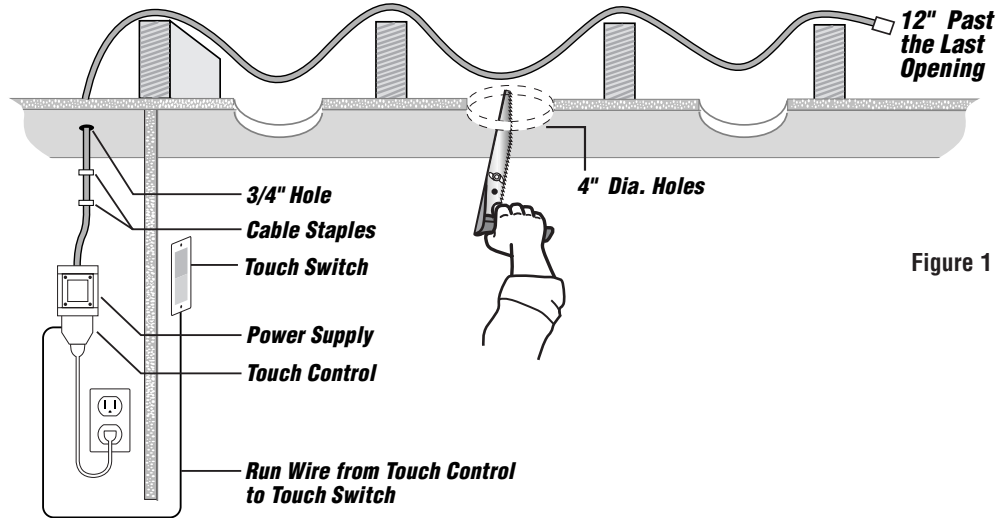
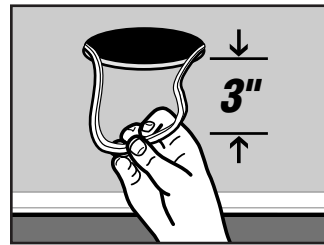

Figure 1
Figure 2
1. Cut a 4" diameter hole at the predetermined fixture locations (Fig. 1).
2. Drill 3/4" hole into ceiling cavity (Fig. 1).
4. Attach cable with provided staples (Fig. 1).
5. Pull cable through each fixture hole approximately 4" (Fig.2). Allow approximately 12" of cable to extend past the last fixture (Fig. 1).